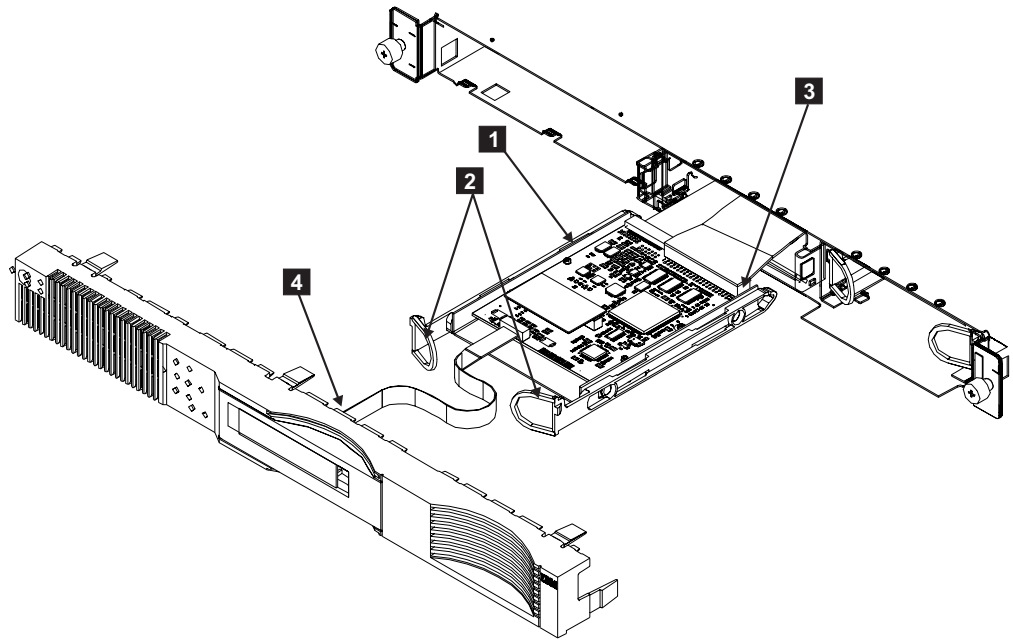

Figure 108. The SAN Volume Controller 2145-4F2 service controller
1. Carefully push the service controller (1 in Figure 108 on page 383) into the SAN Volume Controller 2145-4F2.